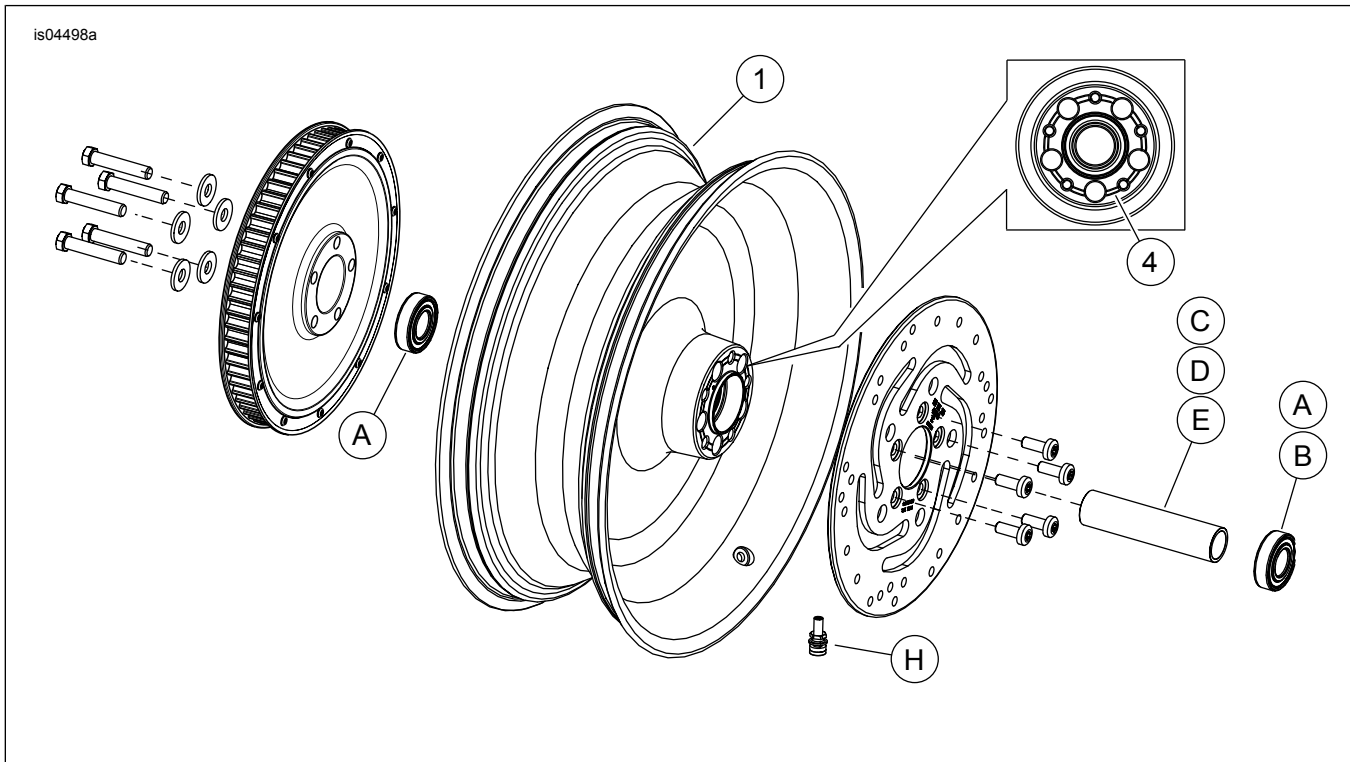

Figure 1. Service Parts: Rear Solid Disc Forged Wheels
See Figure 1 and Table 2
- See Figure 1. Install valve stem assembly (H) on wheel. Refer to TIRES in service manual.